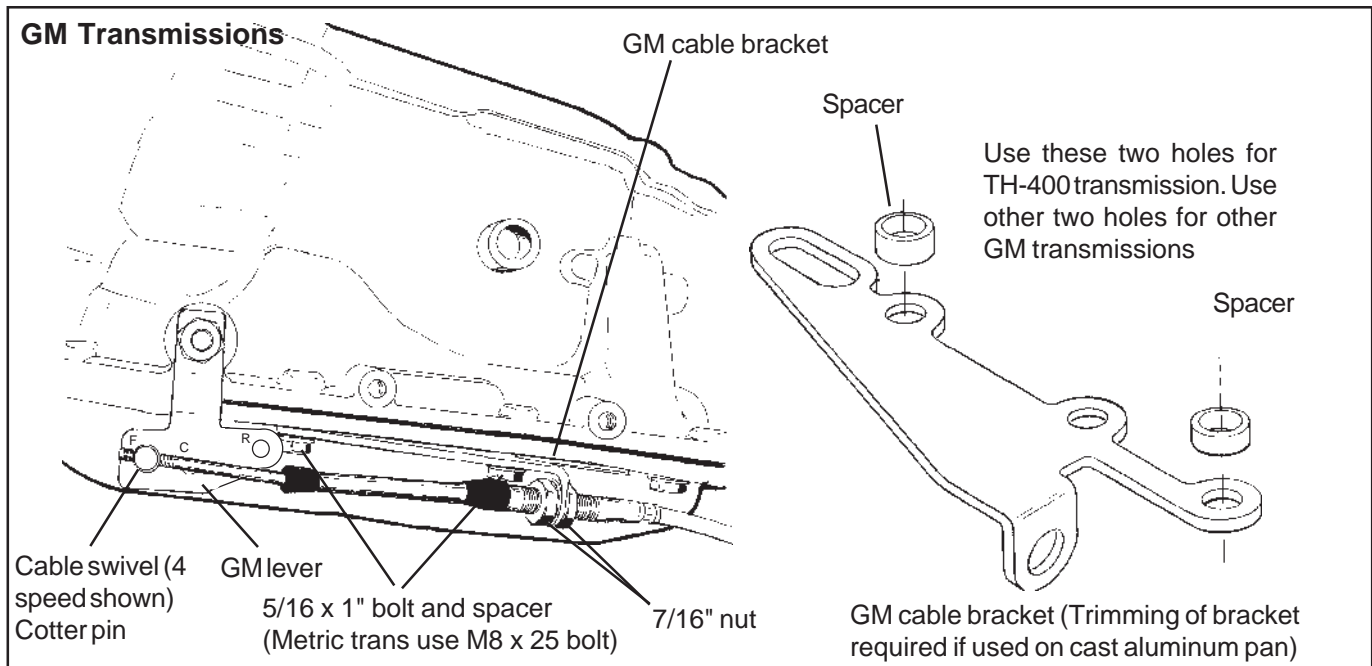

Figure 4
**STEP 8.** If you have not already done so, remove the stock selector lever nut and the selector lever from the transmission. Discard the stock lever and the stock shifter linkage. Install the **B&M** selector lever in position using the stock selector lever nut (See **Figure 4**). Torque nut to 23 lb. ft. The lever should move smoothly from front to rear with a positive click in each gear position.
**STEP 9.** Remove the two transmission oil pan bolts from the middle of the left side of the oil pan. Install the cable bracket in position (See **Figure 4**). The bracket must be installed with two spacers between the pan and the bracket. (If your transmission is equipped with a cast aluminum oil pan, these spacers should be omitted however the cable bracket may have to be modified). Install the two supplied 5/16-18 x 1.00" bolts and tighten to 12-13 lb. ft. Do not overtighten as this can damage the pan gasket.